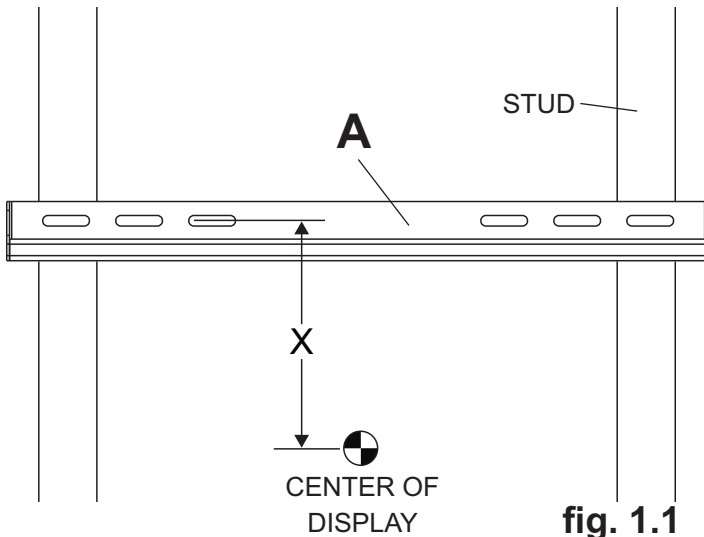
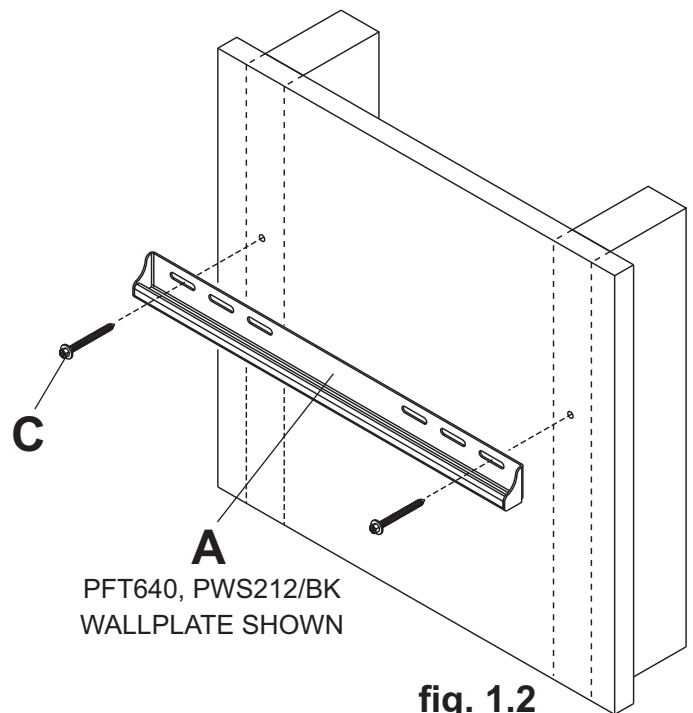

fig. 1.1
fig. 1.2
- 1 Use a stud finder to locate the edges of the studs. Use of an edge-to-edge stud finder is highly recommended. Based on their edges, draw a vertical line down each stud's center. Place wall plate on wall as a template. The top mounting slots should be located above the desired display center as shown in figure 1.1. **NOTE:** Display tilt will determine wall plate location. Level plate, and mark the center of the two mounting holes. Make sure that the mounting holes are on the stud centerlines. Drill two 5/32" (4mm) dia. holes 2.5" (64mm) deep. Make sure that the wall plate is level, secure it using two #14 x 2.5" wood screws (C) as shown in figure 1.2.
- 1** Make sure that wall plate (A) is level, use it as a template to mark two mounting holes. The top mounting hole should be above the desired display center as shown in figure 1.1 on page 5 or figure 1.3 on page 6.
- NOTE:** Display tilt will determine wall plate location. Drill two 5/16" (8mm) dia. holes to a minimum depth of 2.5" (64mm). Insert anchors (D) in holes flush with wall. Place wall plate over anchors and secure with #14 x 2.5" wood screws (C). Level, then tighten all fasteners.